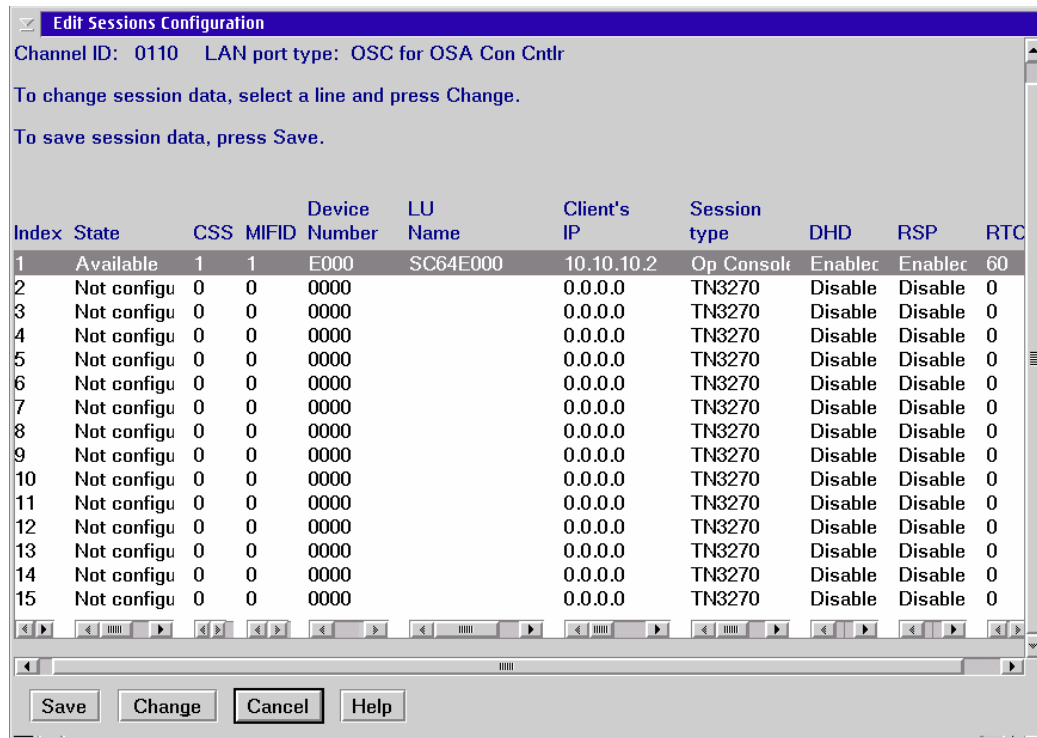

Figure 3-11 Edit sessions configuration with one session
4. Complete the session options and click **OK**. The Edit Sessions Configuration panel is displayed (see Figure 3-11).
Figure 3-11 shows the first OSA-ICC session configured for PCHID 110.